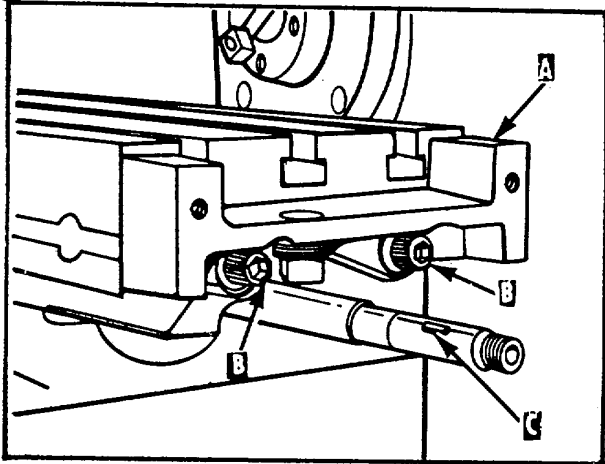

Fig. 3.
3. Assemble the adapter bracket (A) Fig. 3, to the table as shown using the two screws (B) which are supplied with the power table feed.
4. Replace the key (C) Fig. 3, to the table lead screw. This key was removed in STEP 1.